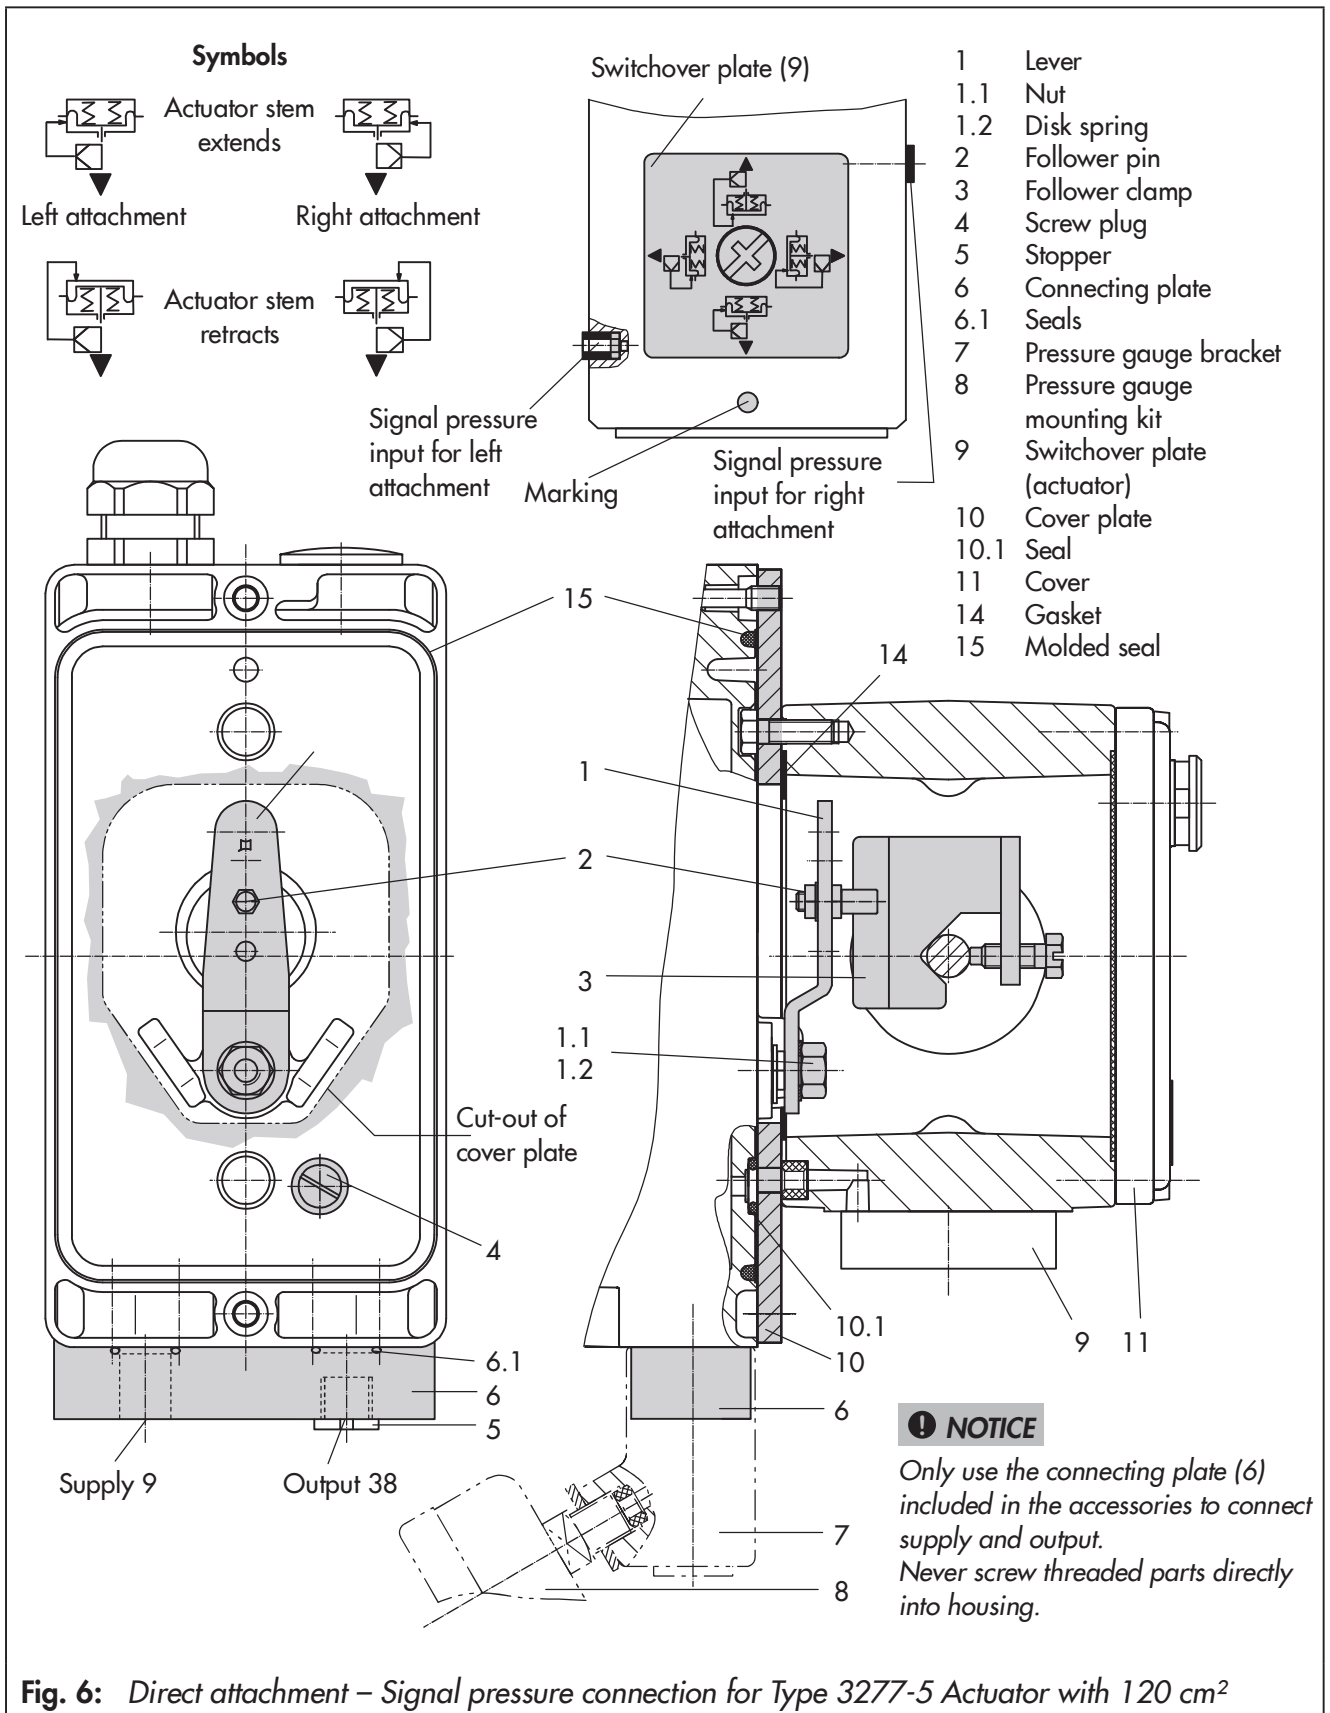

Fig. 6: Direct attachment – Signal pressure connection for Type 3277-5 Actuator with 120 cm²
Actuator with 120 cm² (see Fig. 6)
1. Mount connecting plate (6) or pressure gauge bracket (7) with pressure gauges on the positioner, making sure the two seals (6.1) are seated properly.
2. Remove screw plug (4) on the back of the positioner and seal the signal pressure output (38) on the connecting plate (6) or on the pressure gauge bracket (7) with the stopper (5) included in the accessories.
3. Place follower clamp (3) on the actuator stem, align it and screw tight so that the mounting screw is located in the groove of the actuator stem.
4. Mount cover plate (10) with narrow side of the cut-out (Fig. 6, on the left) pointing towards the signal pressure connection.